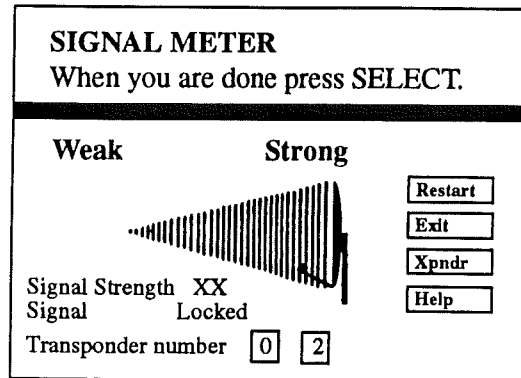

FIGURE 6
STEP 15: Press #3 Signal Meter. Figure 6